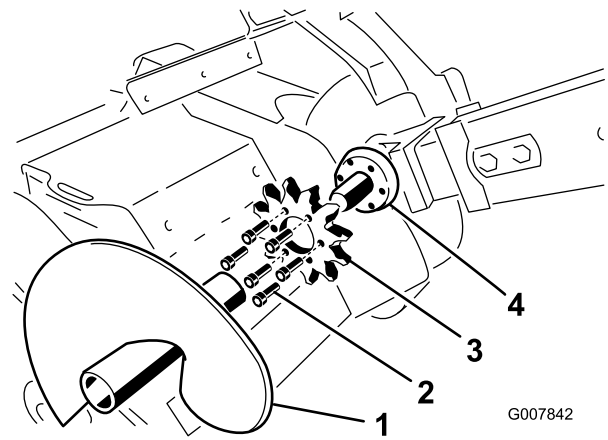

Figure 62
3. Remove the spoils auger (Figure 62).
8. Remove the six bolts securing the drive sprocket (Figure 62).
9. Remove and discard the drive sprocket (Figure 62).
10. Clean the sprocket mounting surface on the trencher (Figure 62).
11. Slide the new sprocket onto the shaft (Figure 62).
12. Thread the six bolts into the sprocket finger tight (Figure 62).